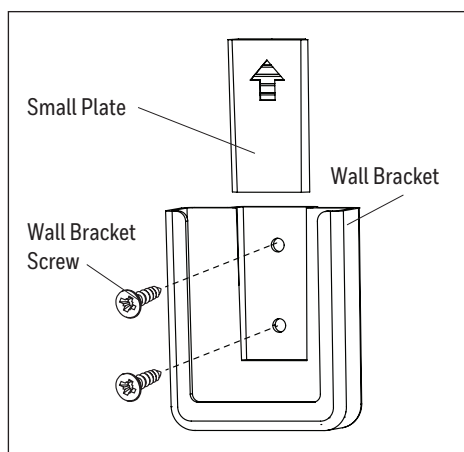

Figure 5.7
- Remote control comes equipped with a wall bracket. If you wish to install the wall bracket, remove the small plate to expose the screw holes. Insert wall brackets screws through holes and into wall, then cover with the previously removed small plate. The remote can be stored in the wall bracket for easy access (Figure 5.7).